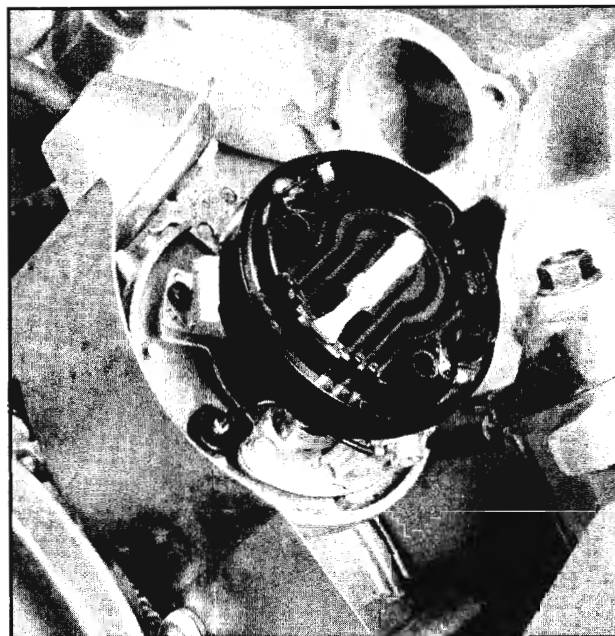

Fig. 14-130 Distributor Installation
4. Position the rotor so that it points toward the distributor cap number one cylinder tower. This will be positioned just slightly to the left of center and towards the front of the engine. (Fig. 14-130)